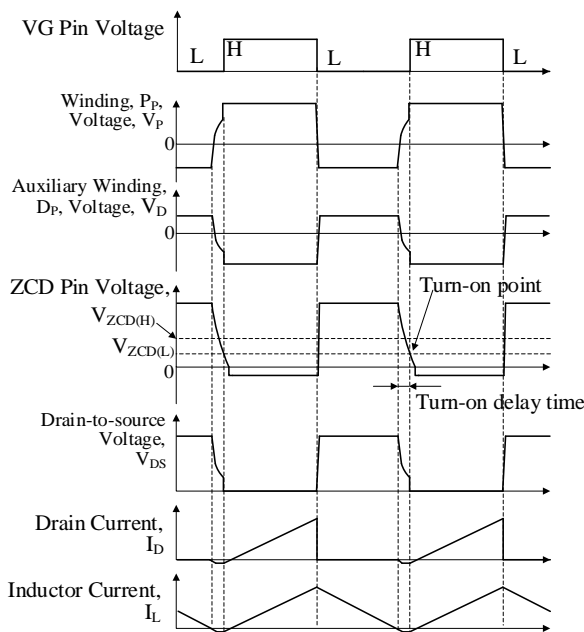

Figure 9-20. CRM Operation vs. Bottom-on Operation
When the VG pin voltage becomes low and Q1 turns off, the positive voltage of auxiliary winding, D_p , is applied on the ZCD pin as shown in Figure 9-20. After Q1 turns off, VG pin voltage maintains low while the ZCD pin voltage is above $V_{ZCD(H)} = 1.40$ V. The ZCD pin voltage then decreases to $V_{ZCD(L)} = 0.70$ V or less. And this condition indicates that the current through L1 has become zero, thus the IC turns on Q1 by turning the VG pin voltage high after a lapse of $t_{DLY(ZCD)} = 70$ ns or longer. When the current through the boost winding, P_p , becomes zero after the Q1 turn-off, the waveform of the drain-to-source voltage, V_{DS} , of Q1 starts free oscillation at the frequency based on the inductance, L_p , of P_p , the output capacitance, C_{OSS} , of Q1, and the parasitic capacitance. The bottom point of V_{DS} is the half cycle of the free oscillation and can be calculated by the Equation (7) below.